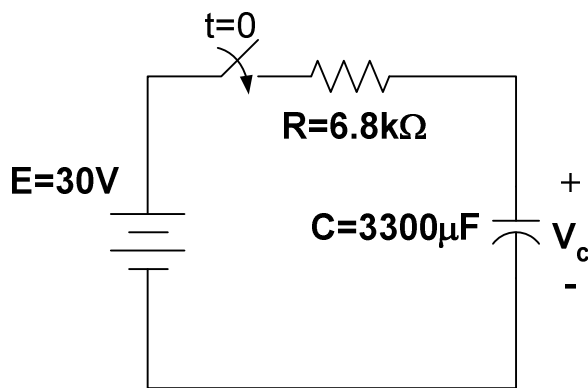

Figure 3: RC circuit for hardware experiment
- Build the circuit given in Figure 3 with laboratory hardwired components. Note that this circuit is the same as in Figure 2 except the switch.